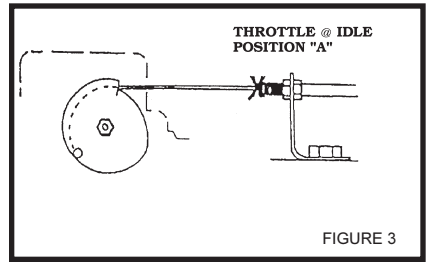

FIGURE 3
- Make a mark on the throttle cable when the throttle is in the idle position. **Figure 3**